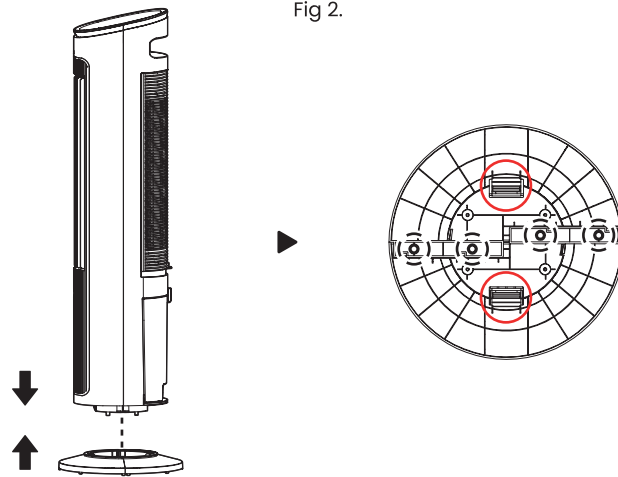

Fig 2.
2. Connect the main body of the unit to the base by lining up the front and the back of the unit with the highlighted clips in fig 2.